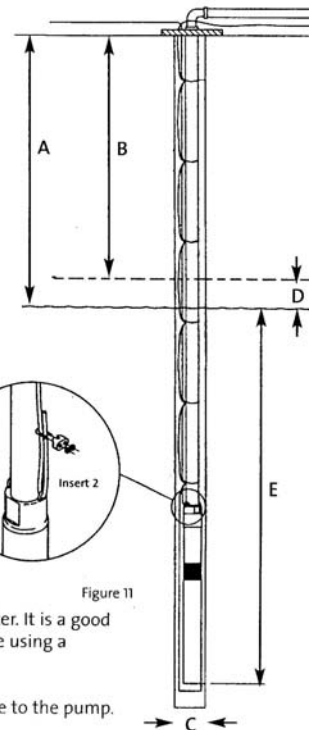

Figure 11
- When plastic pipe is used, a stainless steel safety wire is recommended for lowering and lifting the pump. Fasten the wire to the eyelet on the pump, as shown in circle insert 2, Figure 11.
The dynamic water level should always be above the pump. See fig. 11.